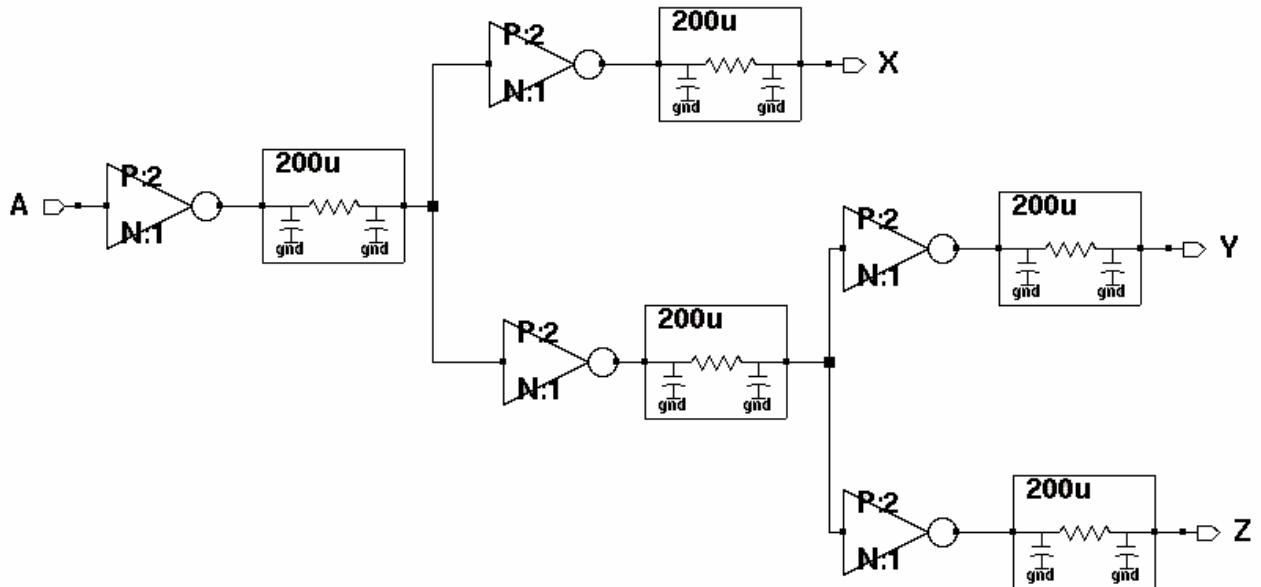

Figure 1.
2. Design the circuit shown in Figure 1 in **both sue and max** and do cross-probing. Simulate the circuit using testbench in sue (using local schematics and max extracted netlist). Use a pulse voltage source at the input terminal in the testbench.